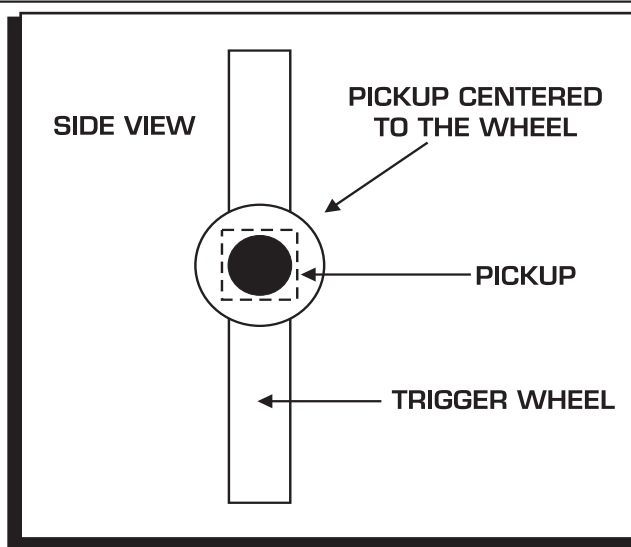

Figure 2 Pickup Centered on the Trigger Wheel.
3. Check and make sure the wheel is positioned correctly with the pickup and torque the trigger wheel bolts to 25 - 30 lb-ft. The pickup should be centered to the edge of the trigger wheel (Figure 2). If not, it may be necessary to add or delete shims to the pickup bracket to achieve the proper position.